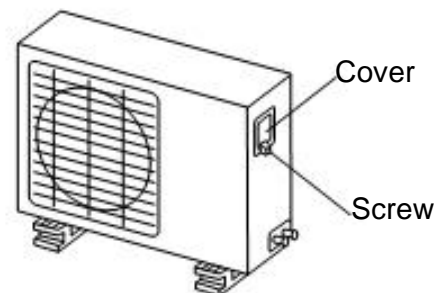

Fig.28
1. Remove the electrical control board cover from the outdoor unit by loosening the screw as shown in Fig.28.